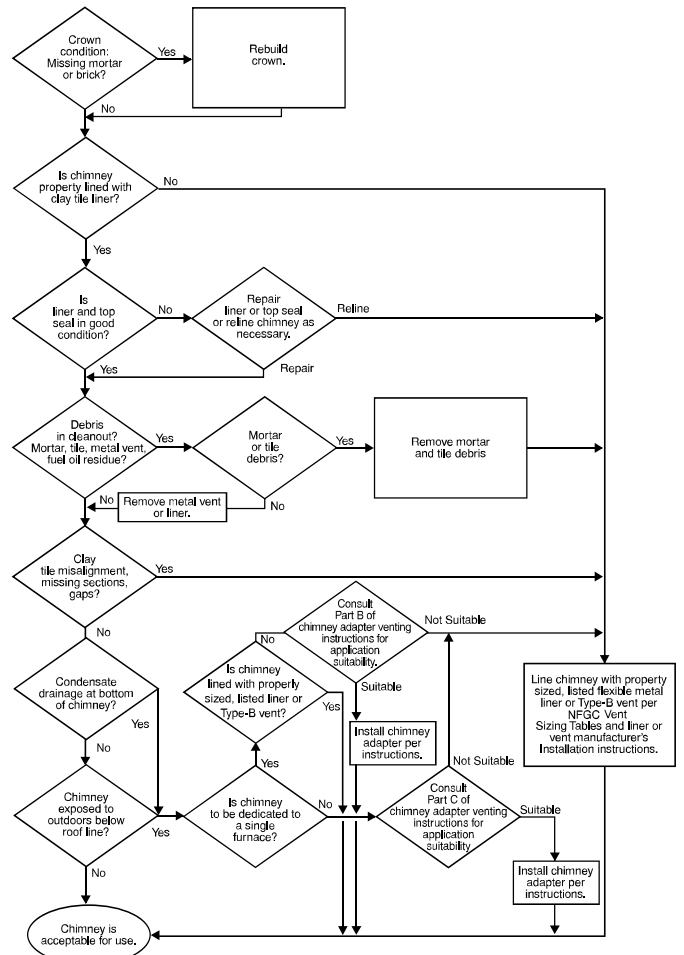

Fig. 31 – Chimney Inspection Chart
7. Do not vent this appliance into an unlined masonry chimney. (Refer to Chimney Inspection Chart, Fig. 31).
Refer to the Fig. 31 to perform a chimney inspection. If the inspection of a previously used tile-lined chimney: